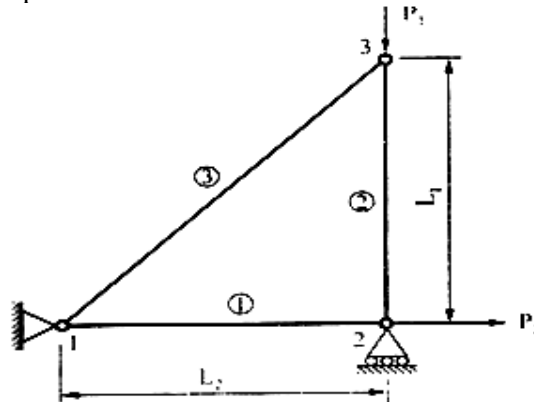

Fig.4.
- (b) A three bar truss is shown in fig 4. The modulus of elasticity of the material is $300 \times 10^3 \text{ N/mm}^2$. The area of the bar used for the truss is 60 mm^2 for all the elements. The length $L_1 = 750 \text{ mm}$ and $L_2 = 100 \text{ mm}$. the load $P_1 = 20 \text{ kN}$ and $P_2 = 25 \text{ kN}$. 07